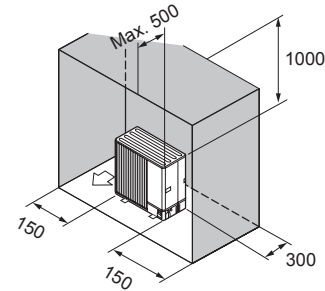

Fig. 4-29
- ⑥ Obstacles at rear, sides, and above only (Fig. 4-29)